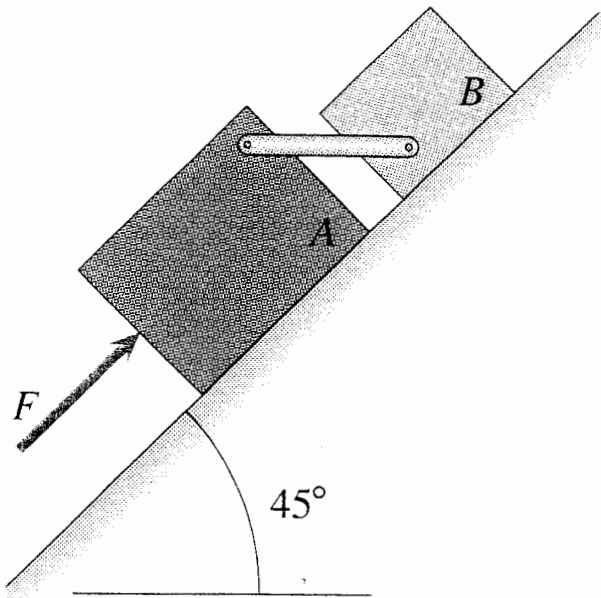

Fig. P3
- 3- Blocks  $A$  and  $B$ , shown in Fig. P3, are connected by a horizontal bar. The coefficient of static friction between the inclined surface and the 400-kN block  $A$  is 0.3. The coefficient of static friction between the surface and the 300-kN block  $B$  is 0.5. What is the range of the values of the force  $F$  for which the blocks will remain in statical equilibrium?